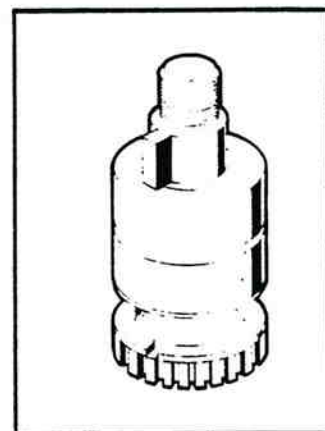

Figure 7-23. Shaft Assembly Installed.
- Install the shaft and bearing assembly into the alternator drive adapter housing through the engine side of the housing (figure 7-23).